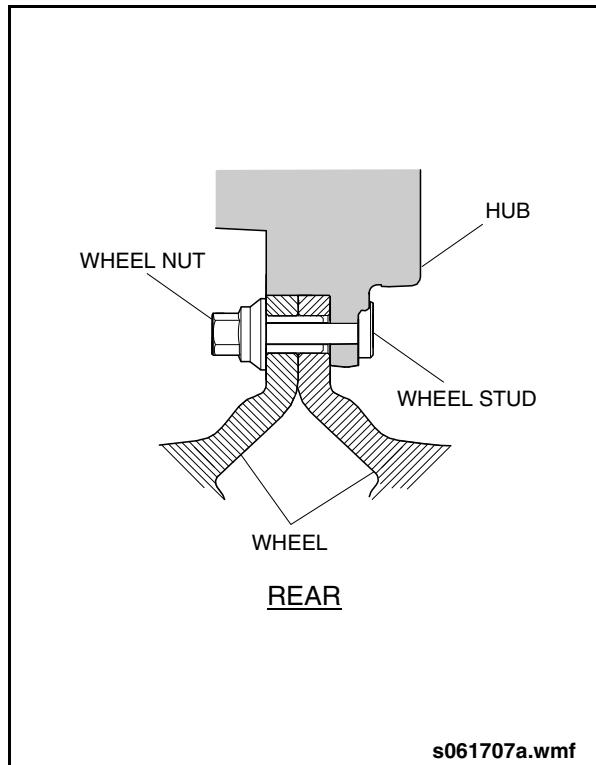

Fig. 2-4: Hub Piloted Wheels - Rear
2. Align mounting holes of inner wheel with wheel studs and install inner wheel against wheel hub. Install outer wheel against inner wheel. See "Fig. 2-4: Hub Piloted Wheels - Rear" on page 10.